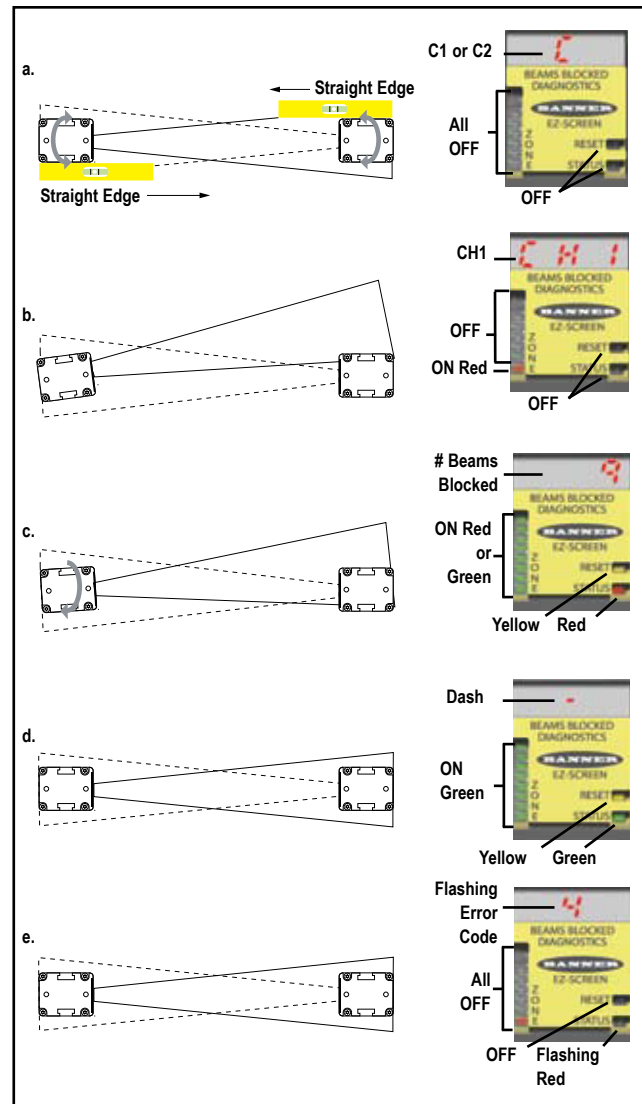

Figure 3-11. Optimum optical alignment
To optimize alignment and maximize excess gain, slightly loosen the sensor mounting screws (x4) and rotate one sensor left and right, noting the positions where the Status indicators turn Red (Blocked condition); repeat with the other sensor (see Figure 3-11). Center each sensor between those two positions and tighten the end cap mounting screws, making sure to maintain the positioning as the screws are tightened. The sensor lenses should directly face each other. Proceed to System Configuration (Section 3.4.2) once optimum optical alignment is verified.
- Ensure the emitter and receiver are pointed squarely at each other. A straight edge (e.g., a level) can determine the direction the sensor is facing (see Figure 3-11). The sensor face must be perpendicular to the optical axis.